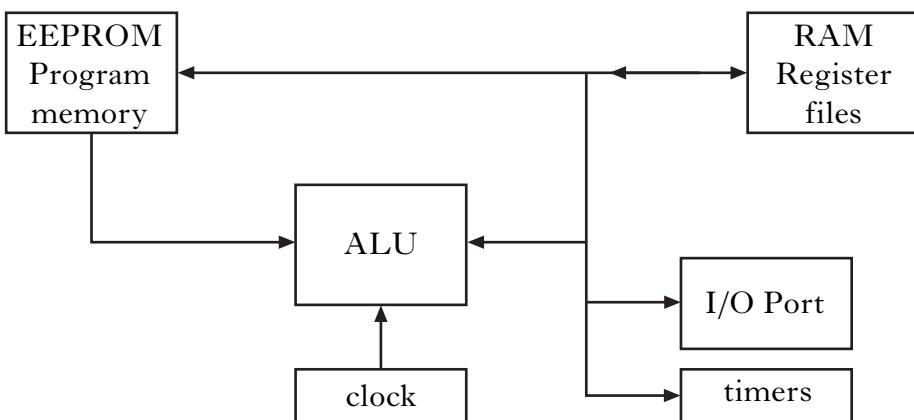

Figure Q2
2. A simplified block diagram for a microcontroller is shown in Figure Q2.
- (b) (i) State the **full name** of the **program** memory shown in Figure Q2.